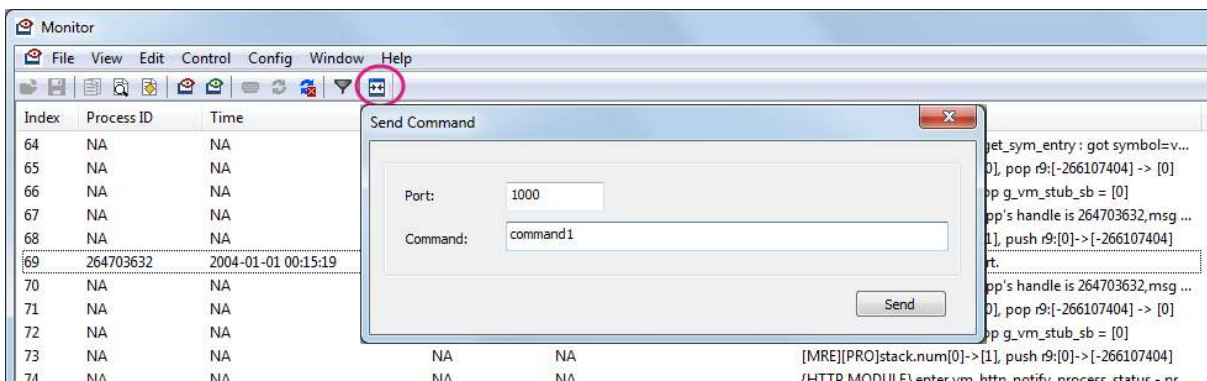

Figure 37 Send Command window
- You can also send commands by clicking the Send Command toolbutton, as shown in Figure 37. Please see 5.4, "Command" for the command string format.